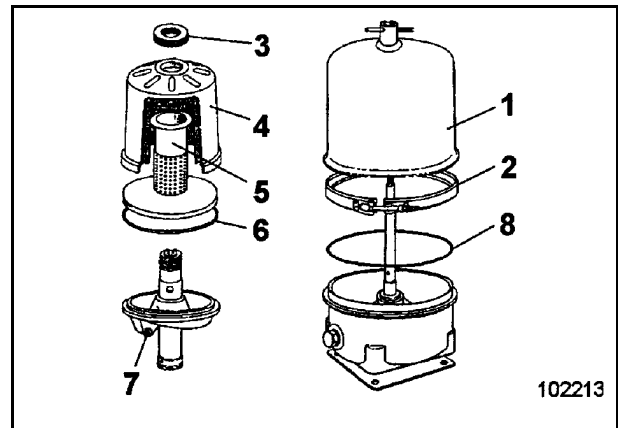

Fig. 3-28:
- Loosen clamp (2, Fig. 3-28:) and withdraw housing (1).
- Check housing seal (8) and replace, if required.
- Unscrew knurled nut (3) and draw off rotor cap (4).
- Clean rotor cap (4) and vertical tube (5) thoroughly with white spirit and dry.